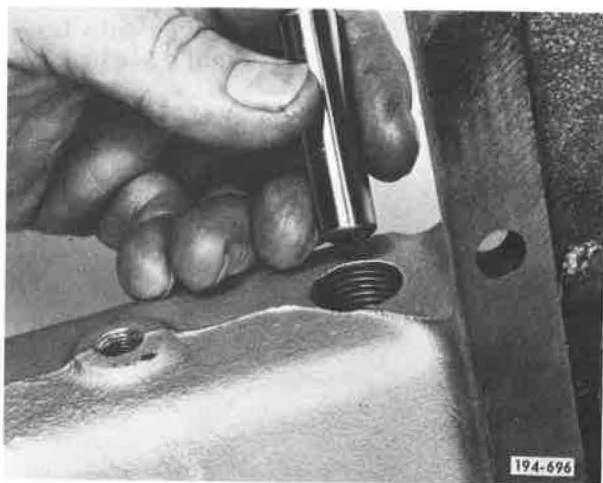

Figure 5-441. Installing Plunger
16. Place Lo/Direct shift rail in neutral position, and install interlock plunger. See Figure 5-441.